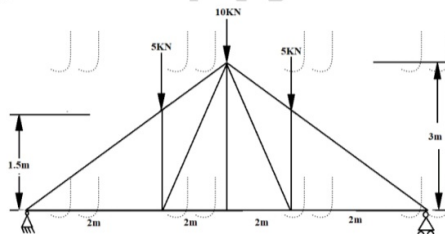

Figure: 2
2. Determine the forces in all the members of the truss shown in figure 2 by using method of joints. [15]